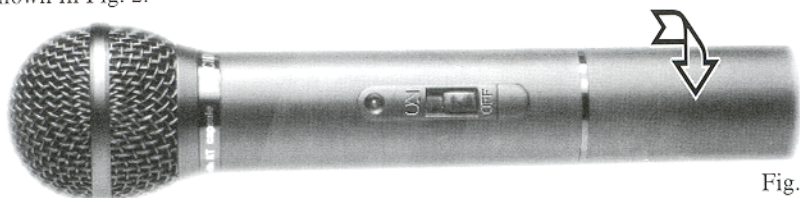

Fig. 2
2. To access to the battery compartment, loosen the battery pack in counter clockwise direction, as shown in Fig. 2.